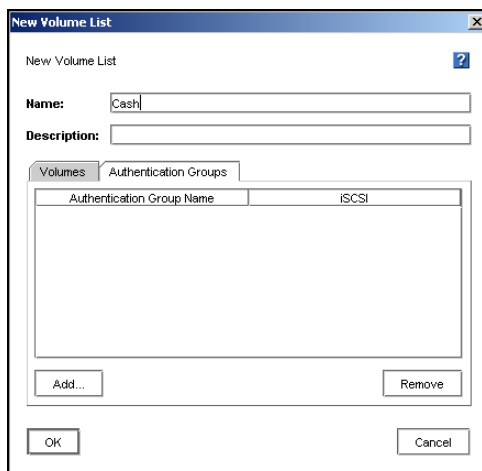

Figure 184. Connecting Authentication Groups to a Volume List
1. Next, select the Authentication Groups tab in the New Volume List window, shown in Figure 184.